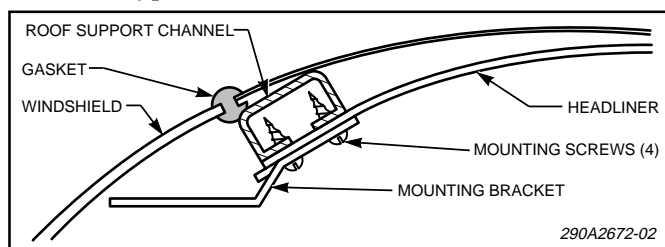

Figure 1.
2. See figure 1. Locate the roof support channel(s) under the headliner. Using the mounting bracket as a template, align four mounting holes with the support channel(s) and mark four drill position marks on the mounting surface.